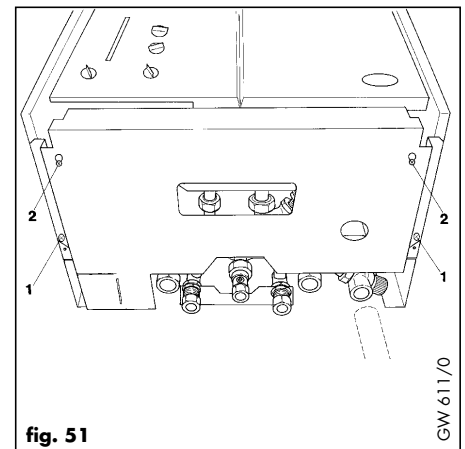

fig. 51
- Remove boiler bottom cover by undoing two screws (1, fig. 51) and slackening two screws (2, Fig. 51).
#### 7.1.3.3 Bottom cover plate (fig. 51)